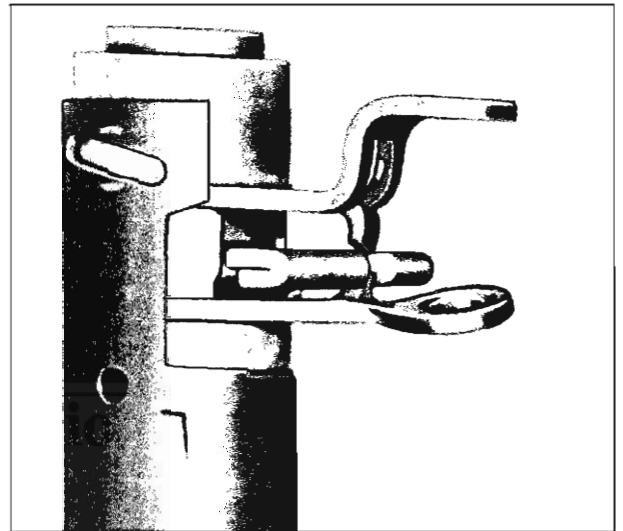

Fig. 27—Temporary Installation of Low-Reverse Lever and Spacer
6. Temporarily install spacer, low and reverse shifter lever and lower adjusting ring as shown in Figure 27. Place a block of wood on top of adjusting ring